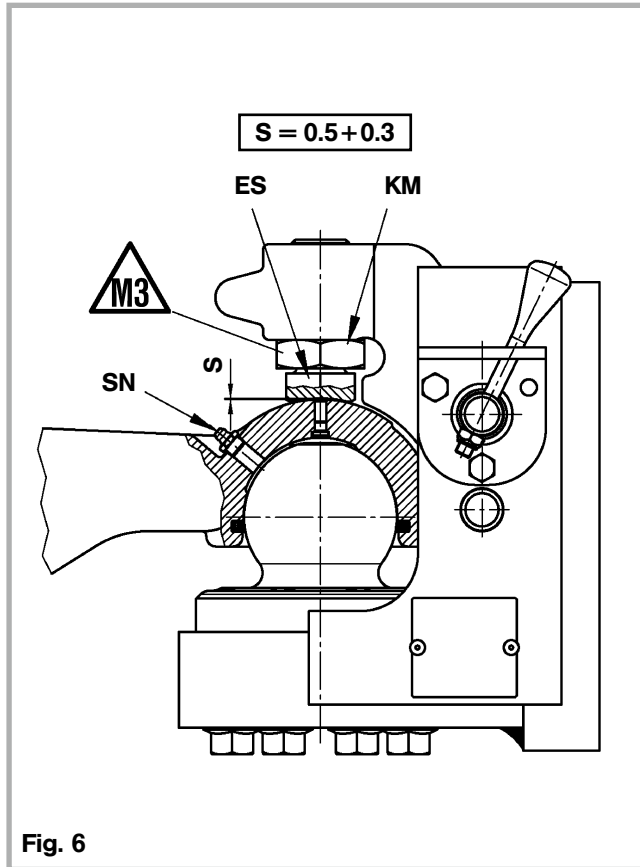

Fig. 6
Individually lubricate ball and towing eye with **calcium saponified multi purpose EP3 grease** prior to initial coupling. Once coupled and secured grease must be applied to the towing eye via the lubrication nipple SN (see fig. 6) until grease emerges from around the adjusting screw for the towing eye (see also 3.1).
- The vertical play of the drawbar eye opposite to the down holder must be set to **S = 0,5 + 0,3 mm** (see fig. 6)